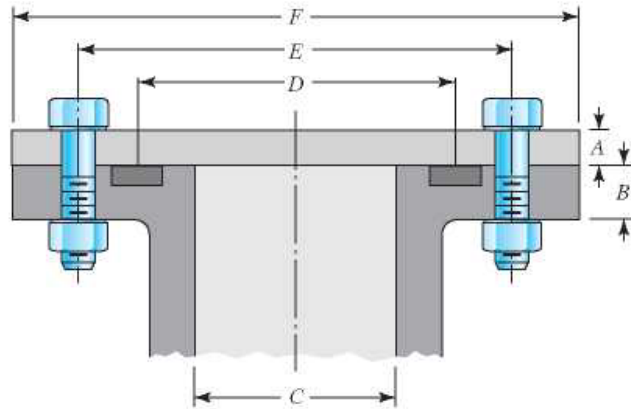

Figure 1. Skematic diagram of steel cylinder head
- (1) Choose one real-life engineering application of bolts with extension loads. The steel cylinder head is shown in Figure 1 as an example. You CAN NOT use steel cylinder head or pressure vessel in Example 8-4 as your design application.
You need to describe (a) what the application is; (b) how the bolts are used in the application; (c) how the extension loads are generated; (d) show a schematic diagram (picture or hand sketch) of the application similar to Figure 1.